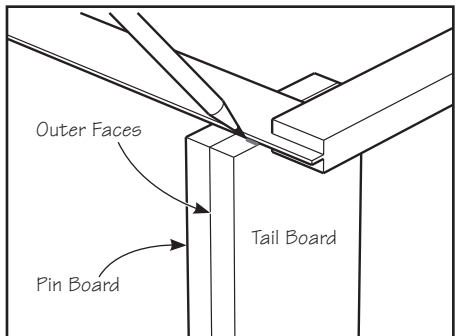
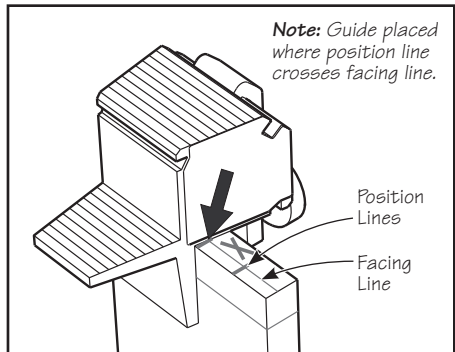

Figure 21: Marking the dovetail locations with a square. Extend the lines completely across the ends.
Figure 24: Guide located for cutting pins.
2. Use a square to mark the dovetail positions (see **Figure 21**). This is necessary because the location of the tails has to be transferred to the facing line on the pin board. Unlike through dovetails, the point where the guide must be placed is not the intersection of the mark and the edge of the board, but placed where the position line crosses the facing line (see **Figure 24**).
- To cut the pins, align the guide where the position line crosses the facing line (**Figure 24**).